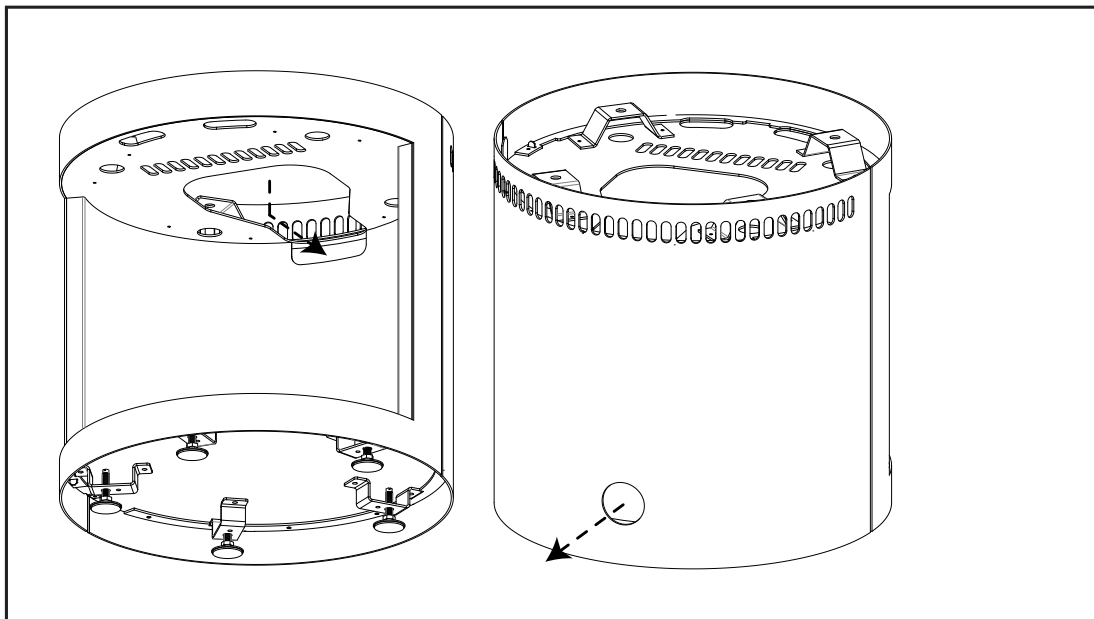

Figure 92: Wood Pedestal Gas & Electrical Rerouting
The wood pedestal has a knockout located at the top of its back wall that will allow the gas and electrical connection to pass through. This knockout allows access to the hollow back wall of the pedestal, which then leads to two (2) openings at the back of the pedestal (see Figure 92).